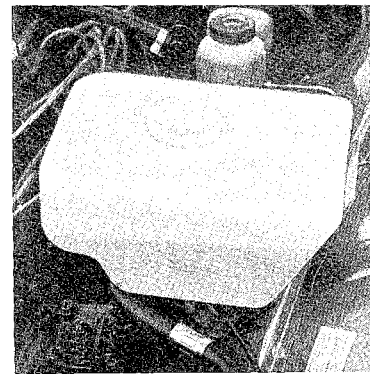

Fig. 1-16. Windshield fluid container
4. Check that the fluid container for the windscreen washer is filled (see Fig. 1-16).